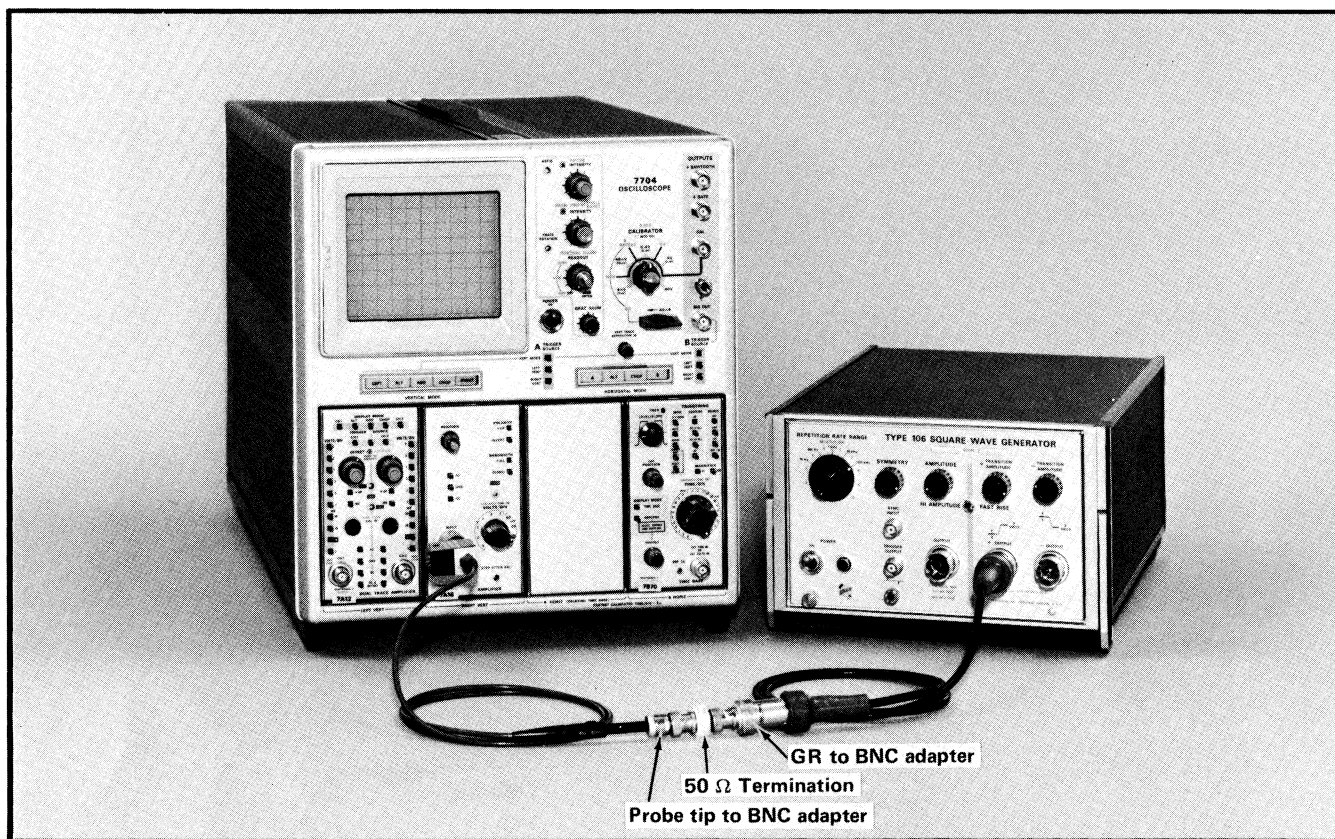

Fig. 4-4. Equipment setup for step 6 (probe response waveform).
i. Connect the probe tip by means of a probe tip to BNC adapter to the 50  $\Omega$  termination. See Fig. 4-4 for this setup.